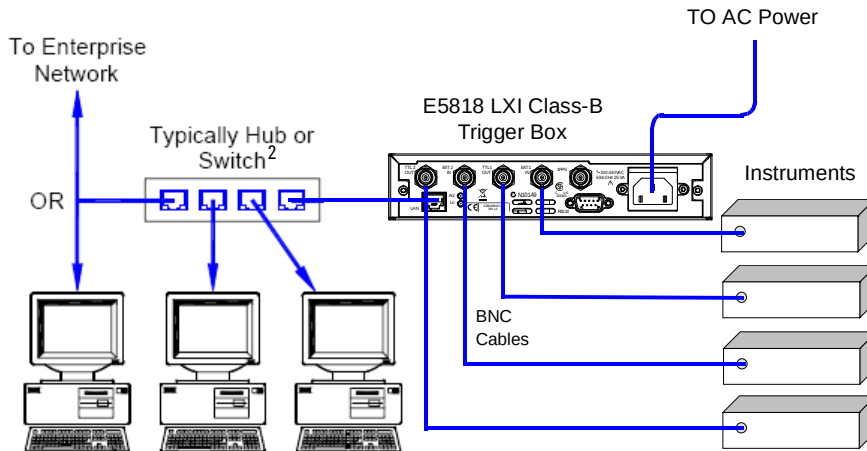

Figure 1 Connecting the E5818 to the Network and to Instruments
Step 1 Connect the E5818 to the Network and to Instruments. Figure 1 shows typical network and instrument connections for the E5818. Make connections as required for your application. See the *Agilent E5818A LXI Class-B Trigger Box User's Guide* for detailed connections.